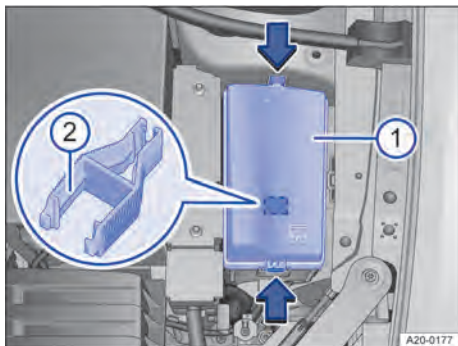

Fig. 178 In the front compartment: fuse box with plastic grippers.
- ① Fuse box.
- ② Plastic pliers.
There may be a pair of plastic grippers for removing fuses in the fuse box → Fig. 178 ②.
2. To release, push the catches in the direction of the arrows → Fig. 178.
3. Lift off the cover → Fig. 178 ①.